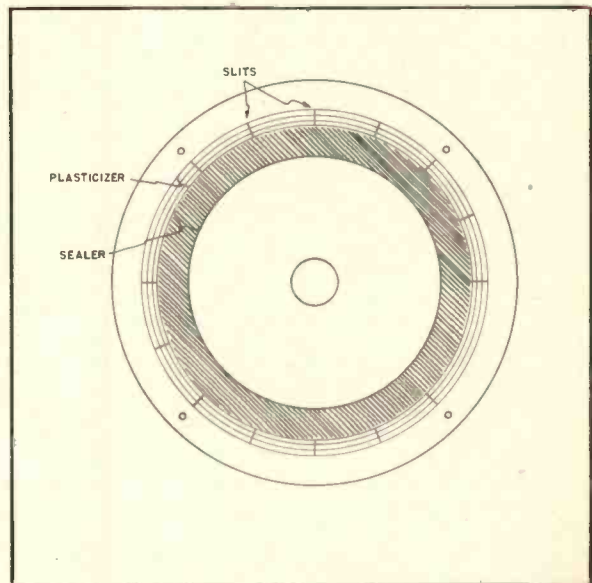

Fig. 2. Method of slotting cone, as described by the author, and location of shellac sealing ring.
The first method is called "slotting" by the makers of Permoflux loudspeakers. As shown in Fig. 2, the speaker is made less stiff by radial incisions in the suspension. The improvement derived from this treatment depends on the merit of the suspension design beforehand. The suspension area of some good modern speakers is extremely thin, as can be
Fig. 2. (A) Comparison of performance of reverse flare, multicellular, and pie-wedge horns. (B) Relative angular response in horizontal (solid lines) vs. vertical (dotted lines) radiation in reverse-flare horn.